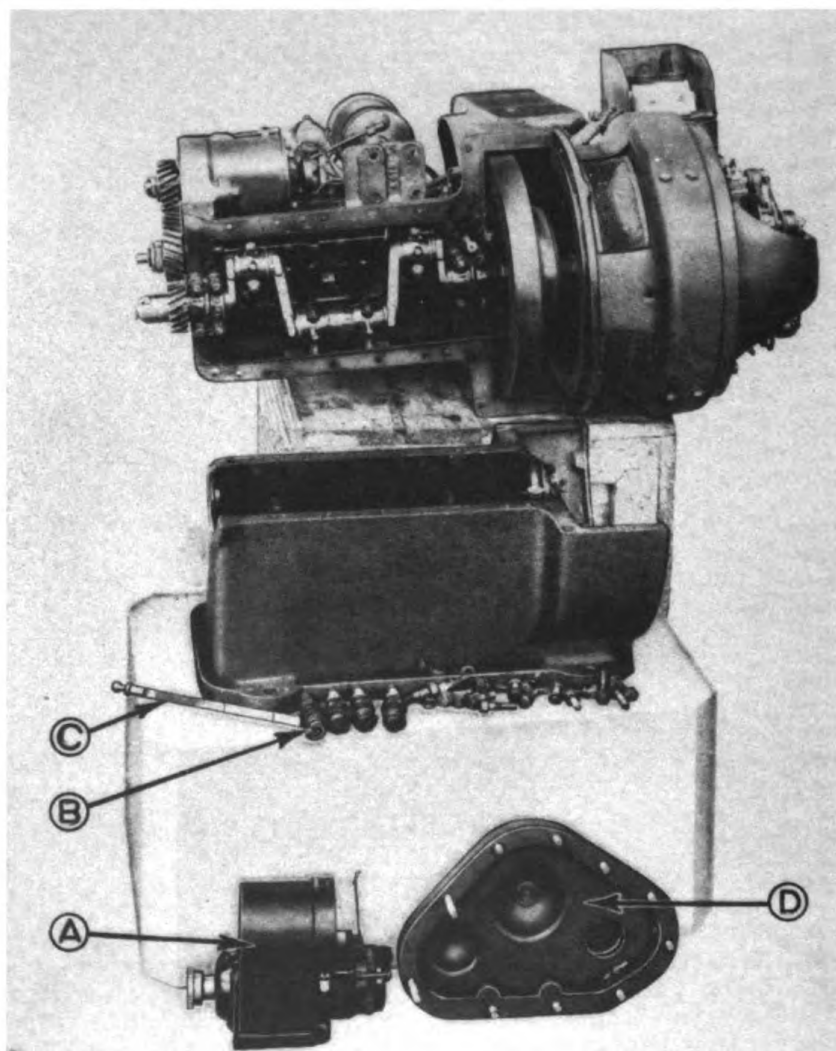

FIGURE 15
2. Remove the ten 5/16" cap screws which hold the cover in place. When the cover is removed the crank gear, cam gear, and magneto drive shaft gear are exposed. See Fig. 15.
Arrange a suitable platform about 12 inches high on the exhaust side of the plant; a strong heavy box will do. Then have someone help lift the engine from oil base and lay it on its side, the exhaust side down. Endeavor to place the engine in a position so that the crankshaft and its bearings are accessible, and that there will be room to work and good light. Tie a string or rubber band around the oil pump tappet to prevent it from falling into the case, while working on the engine. Fig. 15 clearly illustrates the various parts after the engine has been split.